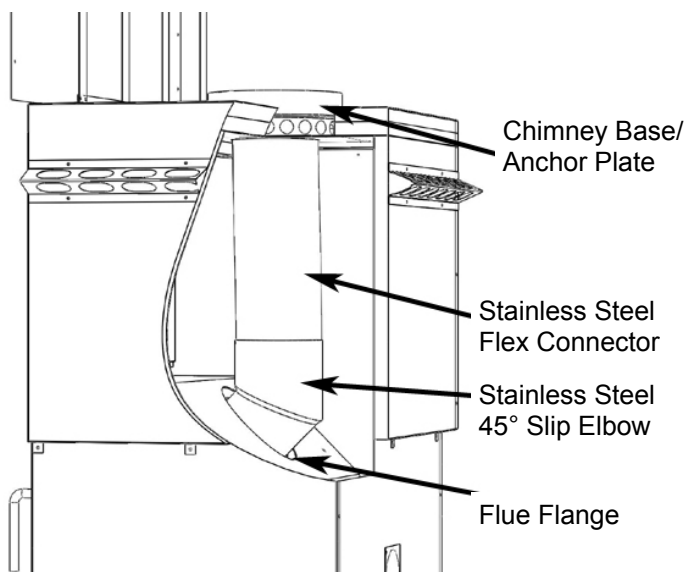

FIG.11 Cutaway View Showing Flue Connection
3. Reach up through the flue opening and pull down on the stainless steel 45° slip connector elbow using the handle provided in the elbow. Make sure the connector elbow is full engaged in the insert flue flange. See FIG. 11.